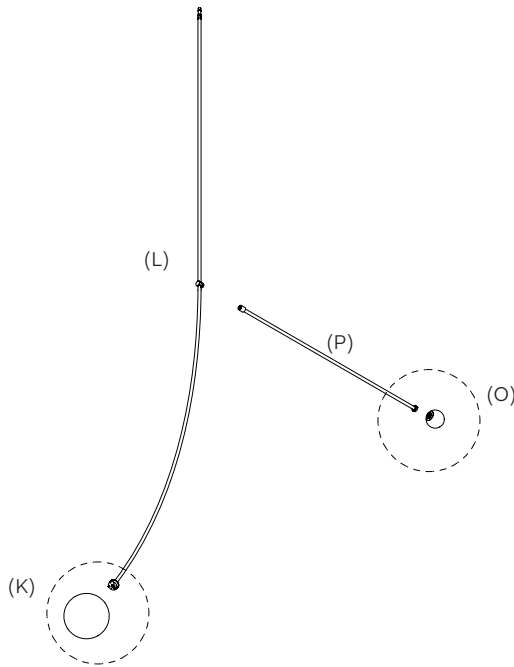
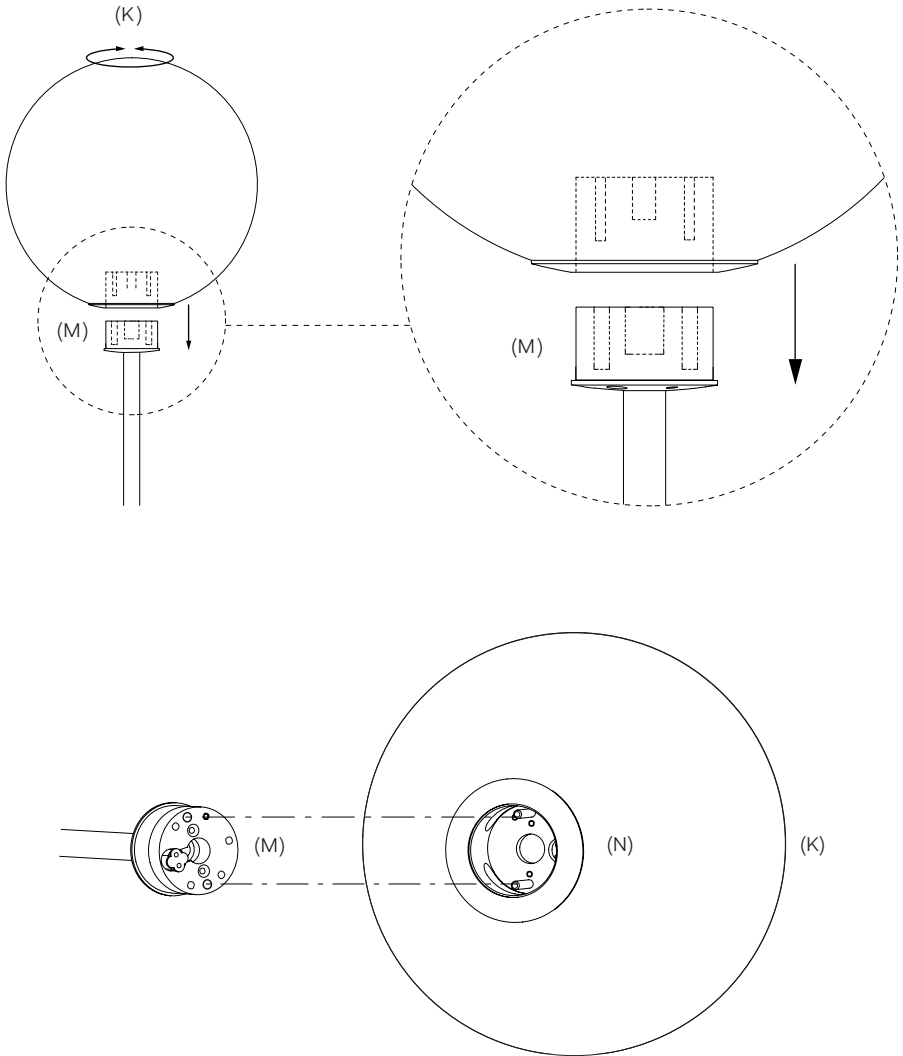

Fig. 13
Fig. 14
Secure the Large Glass Sphere 1 (K) with the supplied M2×20 screw and hex key, ensuring it is tight to keep the connectors flush. See Fig.13 and Fig.14